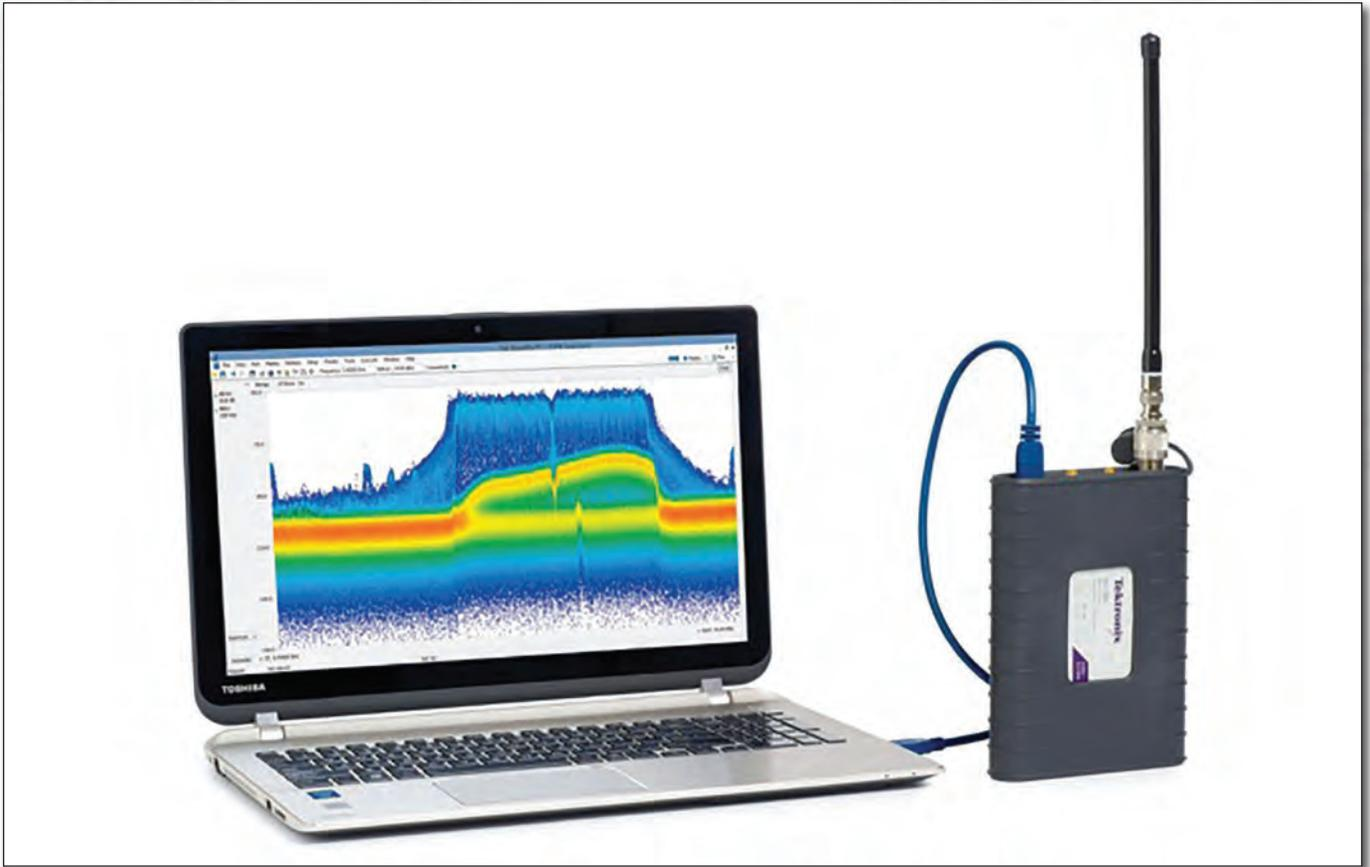

Figure 18 – The Tektronix RSA306 USB-controlled real-time spectrum analyzer, shown with supplied PC-Vu software. Image courtesy Tektronix.
**Tektronix** also introduced their model RSA306 USB-powered modular real-time analyzer about March 2014 (Figure 18). It also requires a high-performance PC using the Windows OS. It should be noted that the supplied SignalVu-PC software will allow basic spectral measurements with lower-performance PCs, but for the more intensive measurements, like spectrograms and digital signal analysis, the faster PCs are required.